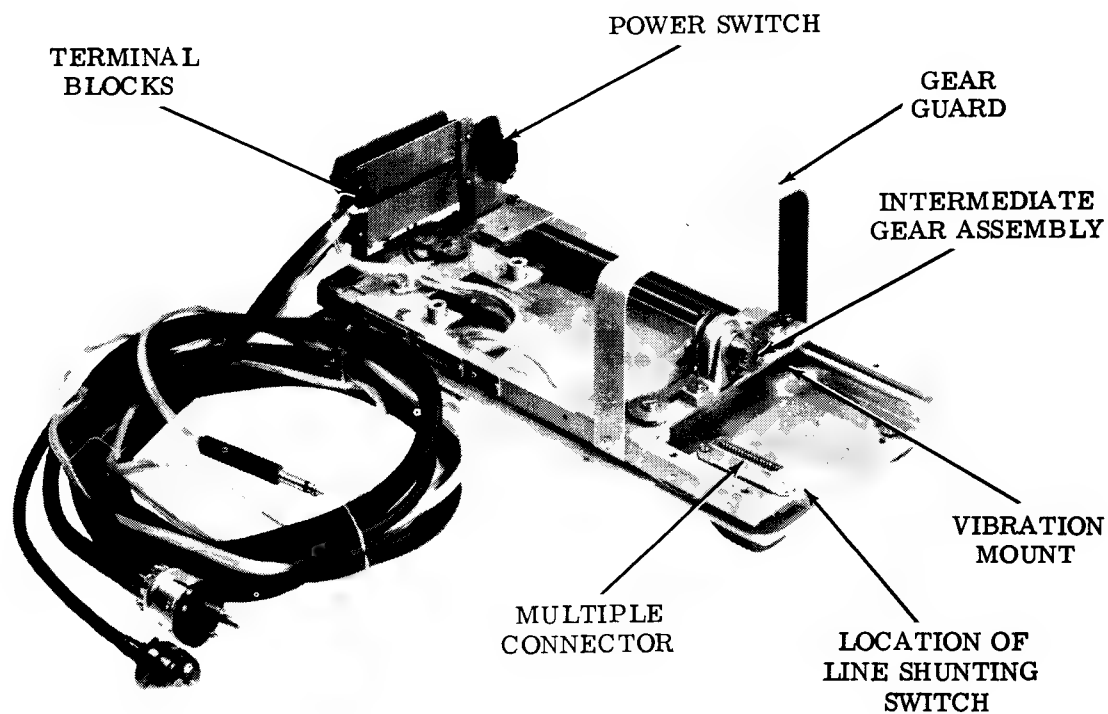

Figure 1 - Single Contact, Single Mounting Transmitter Distributor Base
2.02 The base for the single contact transmitter distributor (regular size) consists of two angle iron rails with cross plates that form a framework. The framework is fastened to a subbase (or oil pan on some models) by means of three vibration mounts which serve to reduce vibration (Figure 1).